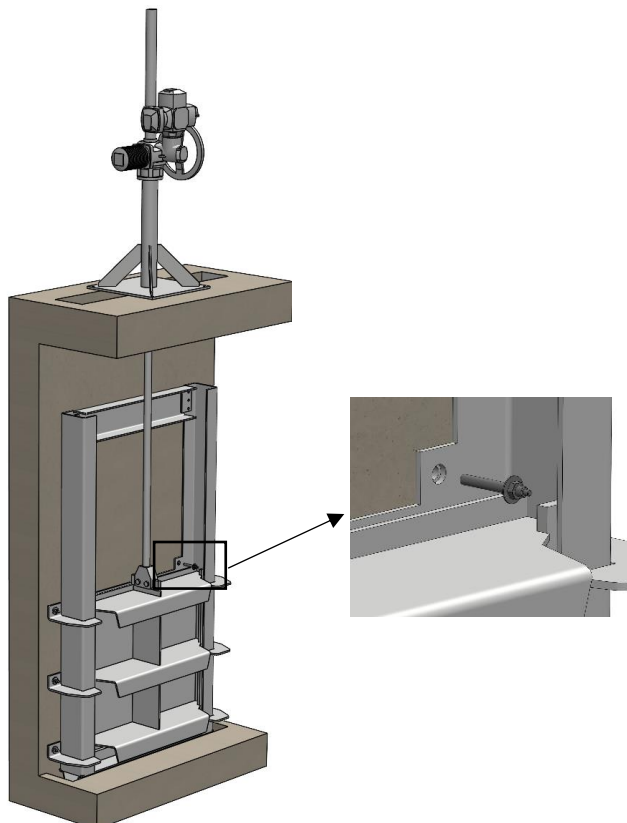

Fig. 3
- Position Sluice gate valve in the respective recess or in front of the wall opening to shut-off and align with plumb and level, acc. Fig. 3.